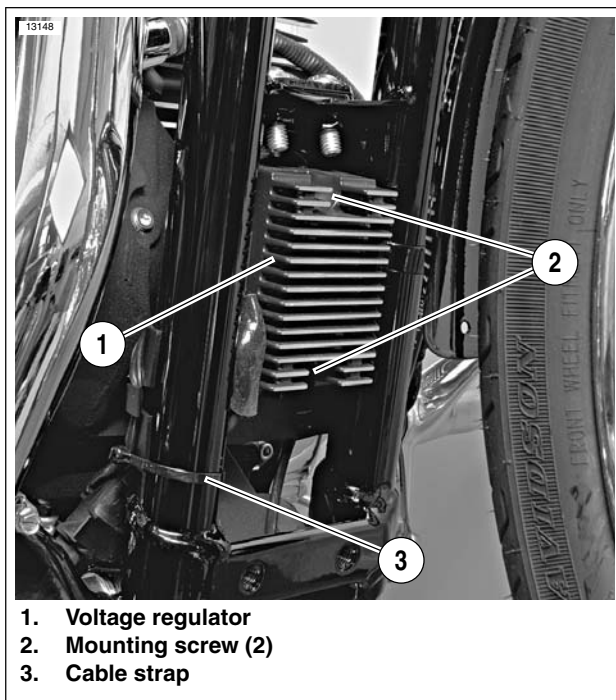
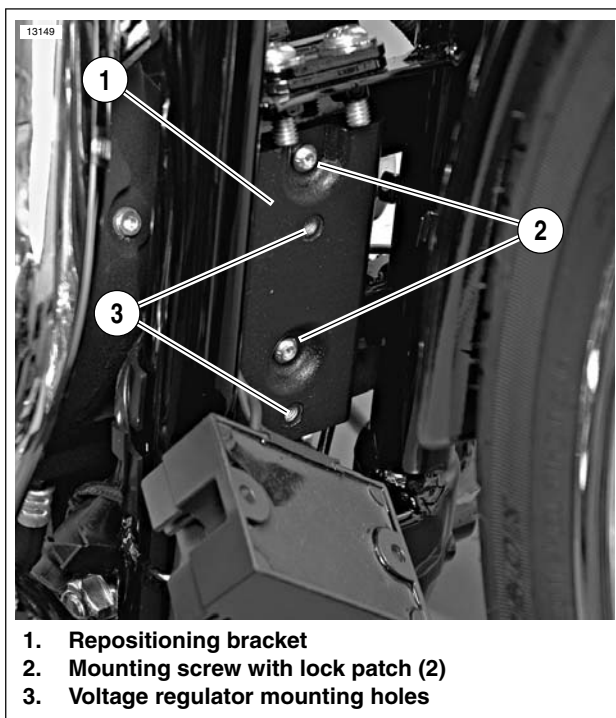

Figure 2. Unbolt and Remove Voltage Regulator
Figure 3. Mount Repositioning Bracket
4. See Figure 2. Cut cable strap (3) that secures stator harness and neutral switch wire to vehicle frame.
5. Remove two screws (2) and voltage regulator (1) from voltage regulator bracket on vehicle frame. Discard mounting screws. They will not be reused. Position voltage regulator to the side, out of the way.
6. See Figure 3. Mount repositioning bracket (1) onto original voltage regulator bracket on frame with two **new** screws (2) from recall kit. Make sure repositioning bracket is oriented as shown in the photo, so that voltage regulator mounting holes (3) are below repositioning bracket mounting holes. Tighten screws to 30-60 **in-lbs** (3.4-6.8 Nm).